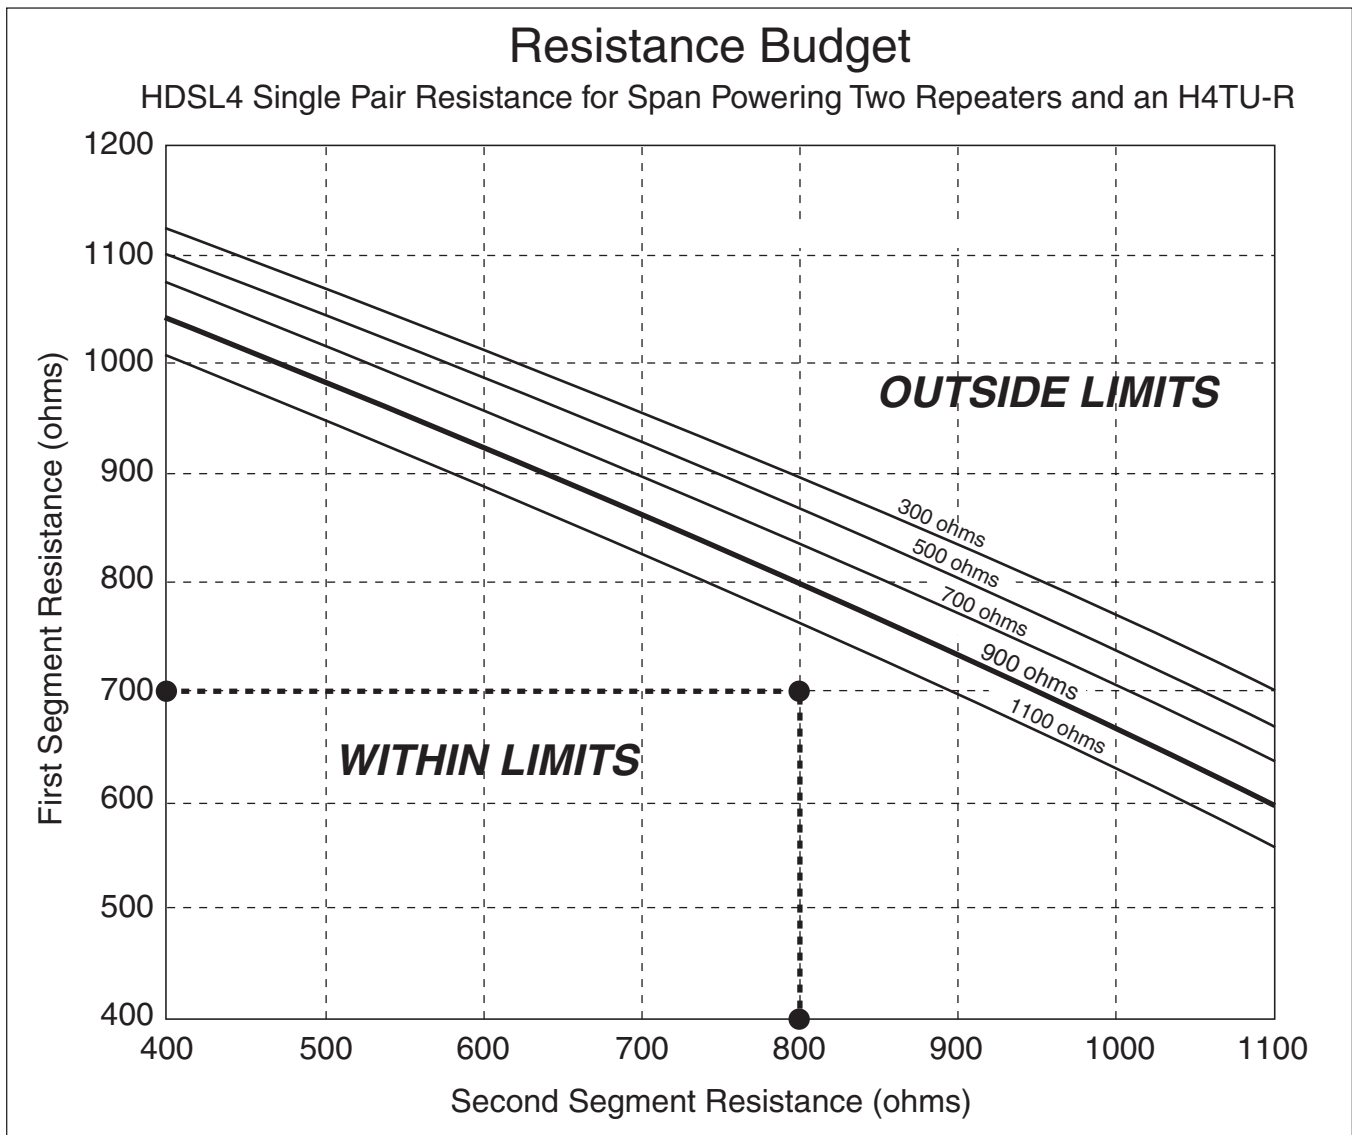

Figure 4. Resistance Budget Span Powering Two Repeaters (Example)
An example problem is illustrated in **Figure 4**. For this example, begin with three known measurements: 700 ohms first segment resistance, 800 ohms second segment resistance, and 900 ohms third segment resistance. See Figure 4 and the following steps to solve the example problem:
1. Find the 900 ohms third segment resistance line on the graph. This line is depicted in bold in Figure 4. This line is the upper span power limit.